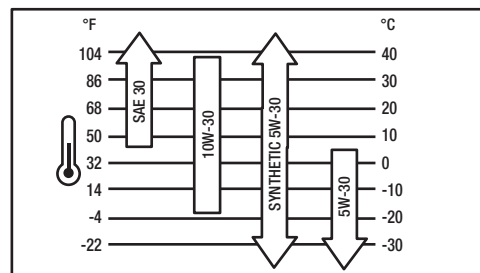

Figure 1-6
- Secure the gas cap and wipe off any excess fuel. See Figure 1-6.